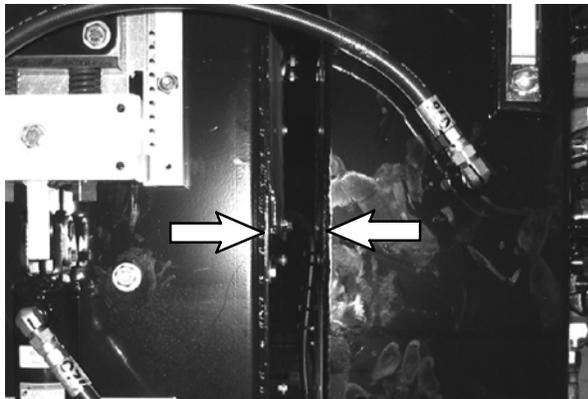

FIG. 9
11. **Only if replacing the left conveyor lift assembly:** If machine is equipped with the Auto-Lube option, reinstall the Auto-Lube manifold onto the left conveyor lift assembly (1).
14. Measure the distance between the conveyor and the hydraulic reservoir on the right side of the machine. There should be between 1/16" to 1/8" clearance between the conveyor and the hydraulic reservoir. Proceed to Step 16 if there is adequate clearance. Proceed to Step 15 if there is not enough clearance between the conveyor and the hydraulic reservoir. Refer to Fig. 9.